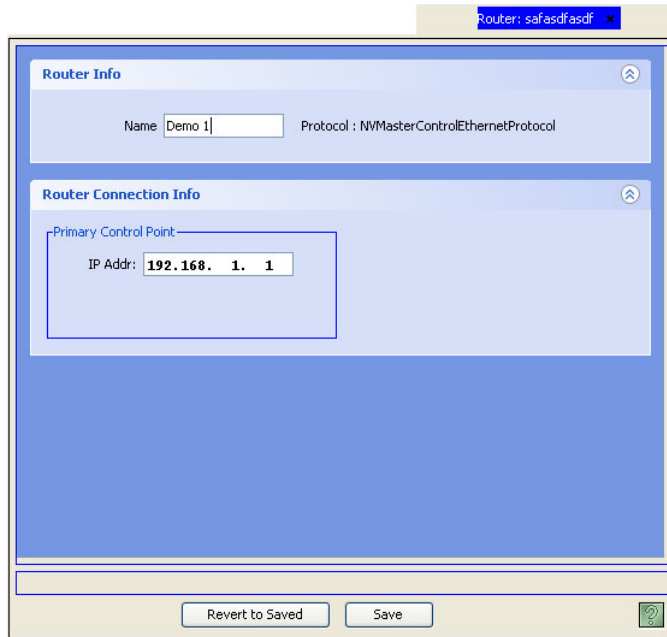

Figure 12-2. Master Control Details Page
- 5 Click Add & Edit. The 'Master Control Details' page appears, as shown in Figure 12-2.